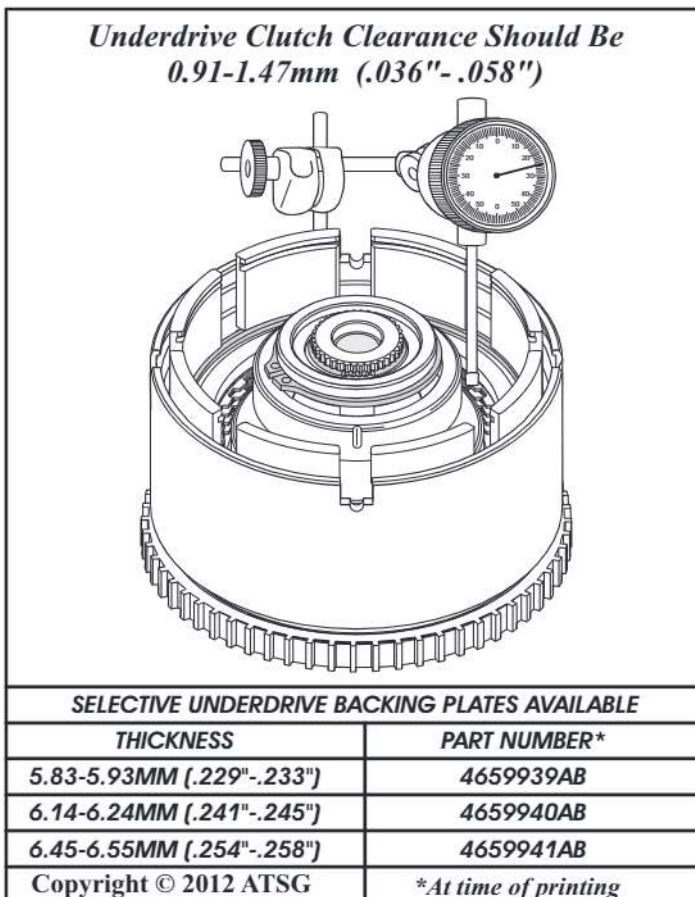

Figure 188
27. Mount a dial indicator to the input housing and zero the indicator against tooth of the underdrive friction plate, as shown in Figure 188.
30. Change the selective backing plate as necessary using the chart in Figure 188, to obtain proper underdrive clutch clearance.